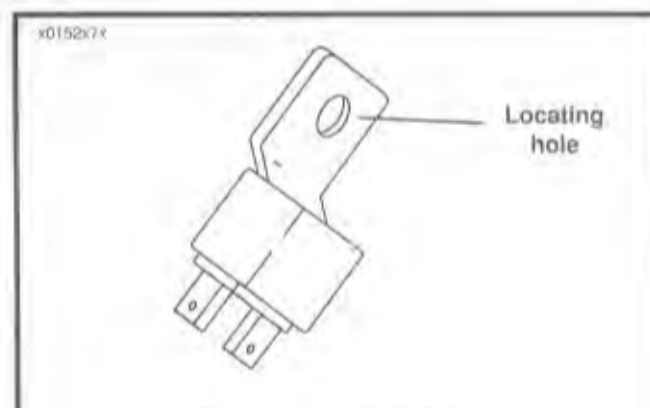

Figure 7-4. Starter Relay
4. See Figure 7-4. Position locating hole in relay over raised tab on electrical bracket and push into position.